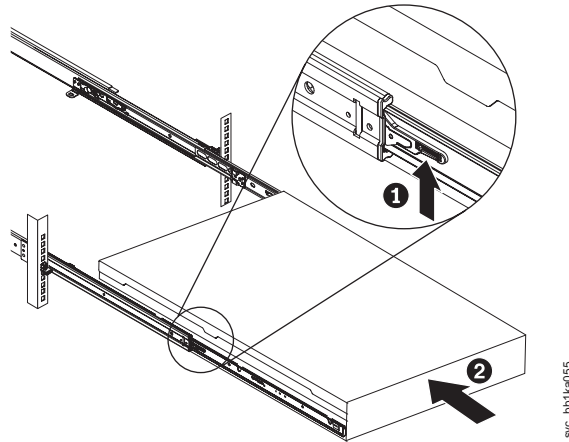

Figure 85. Raising the locking levers of the slide rails of the rack
7. If you pulled out the node to the fully-extended position on the rack, lift the locking levers ( 1 in Figure 85 on page 97) on the slide rails and push the server 2 all the way into the rack until it clicks into place.